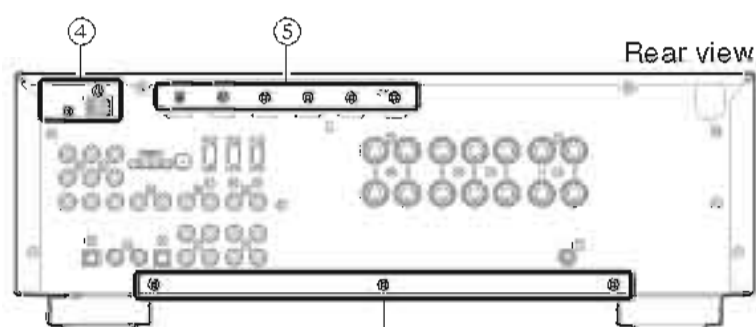

Fig. 3
- Remove 2 screws (④) and 6 screws (⑤). (Fig. 3)
- ④のネジ2本、⑤のネジ6本を外します。(Fig. 3)
- Remove 3 screws (⑨). (Fig. 3)
- ⑨のネジ3本を外します。(Fig. 3)
4. When writing of the firmware is completed, "Update Success", "Please..." and "Power Off!" are displayed repeatedly. (Fig. 3)
4. ファームウェアの書き込み完了後、"Update Success"、"Please..."、"Power Off!" が繰り返し表示されます。(Fig.3)